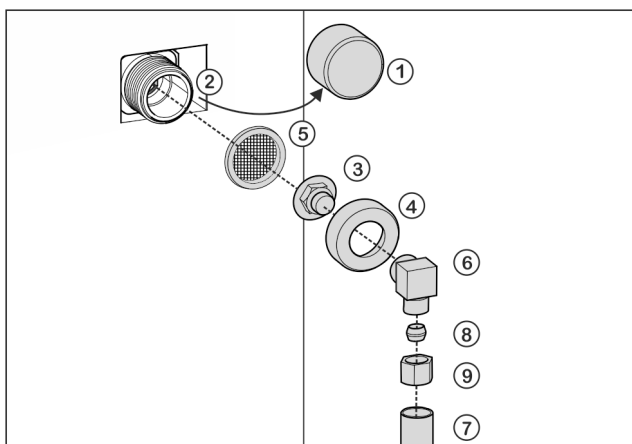

Fig. 58
- ▶ Remove cap Fig. 58 (1) from solenoid valve Fig. 58 (2).
- ▶ Insert coupler Fig. 58 (3) into union nut Fig. 58 (4).
- ▶ Insert the filter Fig. 58 (5) with the recess pointing down towards the coupler Fig. 58 (3).
- ▶ Screw the union nut Fig. 58 (4) by hand onto the thread of the solenoid valve Fig. 58 (2) until it is firmly in place.
- ▶ Screw on angle piece Fig. 58 (6).
- ▶ Connect the water pipe Fig. 58 (7) (e. g. 1/4" OD copper pipe) with the clamp ring Fig. 58 (8) and nut Fig. 58 (9) to the elbow connector Fig. 58 (6).
- ▶ If necessary: Fasten the water pipe Fig. 58 (7) to the housing with the guide clip.
- ▶ Put angle piece Fig. 58 (6) to one side.
- ▶ Connect the water pipe Fig. 58 (7) (e. g. 1/4" OD copper pipe) with the clamp ring Fig. 58 (8) and nut Fig. 58 (9) to the coupler Fig. 58 (3).